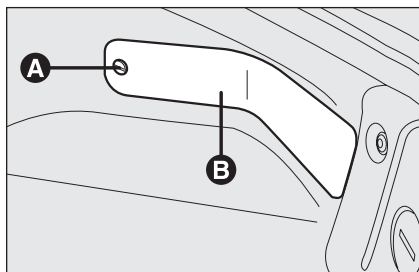

fig. 30
To change these bulbs, open the boot, operate device **A**-fig. 30 and remove the lid **B**.
- ☐ open the boot and the lid as described previously (see **fig. 30**);